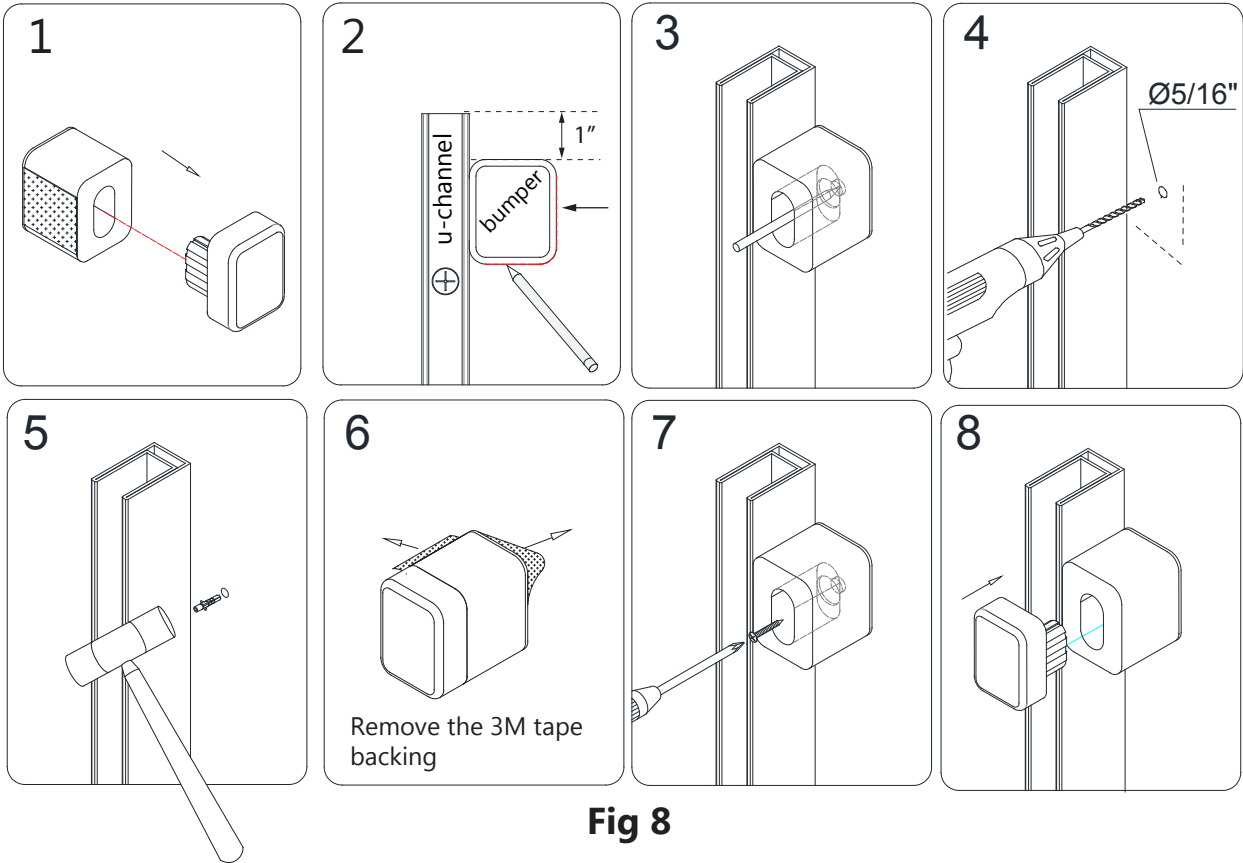
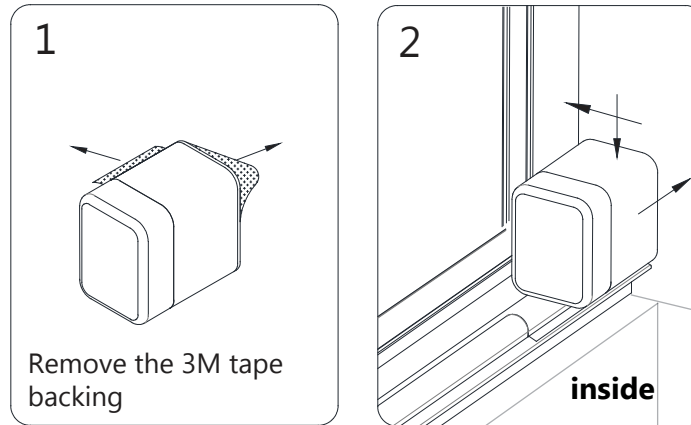
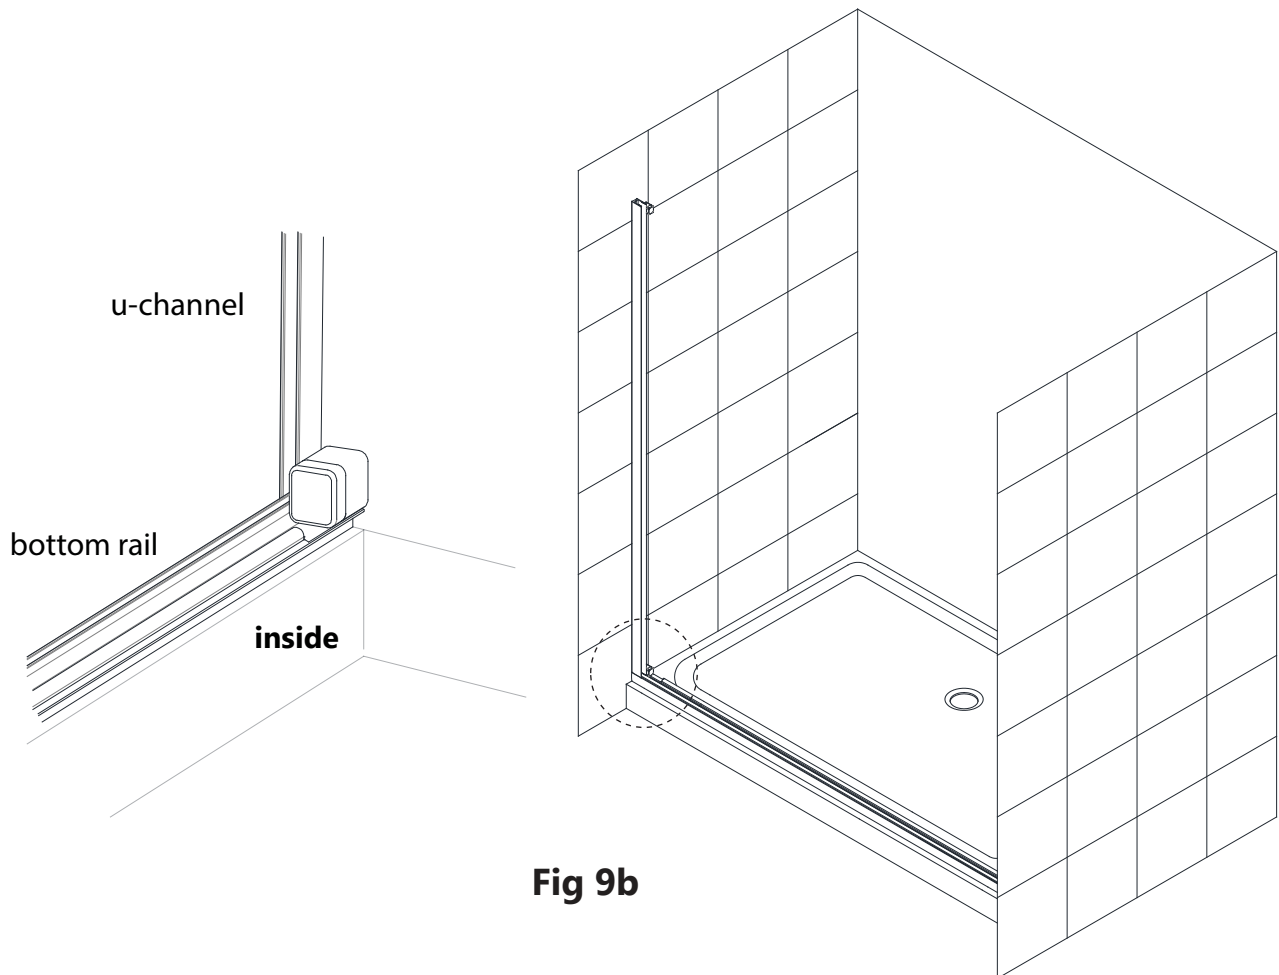

Fig 8
Fig 9a
Fig 9b
(Fig 8, Fig 9a and Fig 9b)
8. To install the top **Safe Stop™ Bumper (#11)**: Remove the **Bumper Insert (#11.1)** and hold the **Bumper Base (#11.2)** in place 1" below the top and against the **Wall Profile/U-Channel (#17)** (**Fig #7.1**) to mark the position on the wall and to mark the hole for drilling. Drill a **Ø5/16"** hole and insert a **Wall Anchor (#11.4)**. Clean the area with an alcohol swab. Remove the **3M tape** backing from the **Safe Stop™ Bumper (#11)**. Install the **Bumper Base (#11.2)** with the **ST4.2 x 40 Screw (#11.3)** and replace the **Bumper Insert (#11.1)**. (**Fig 8**)
9. To install the bottom **Safe Stop™ Bumper (#11)**: First, clean the area with an alcohol swab. Remove the **3M tape** backing from the **Safe Stop™ Bumper (#11)** and install the **Safe Stop™ Bumper (#11)** onto the **Bottom Rail (#03)** firmly against the wall and the **Wall Profile/U-Channel (#17)**. (Fig 9a and Fig 9b)